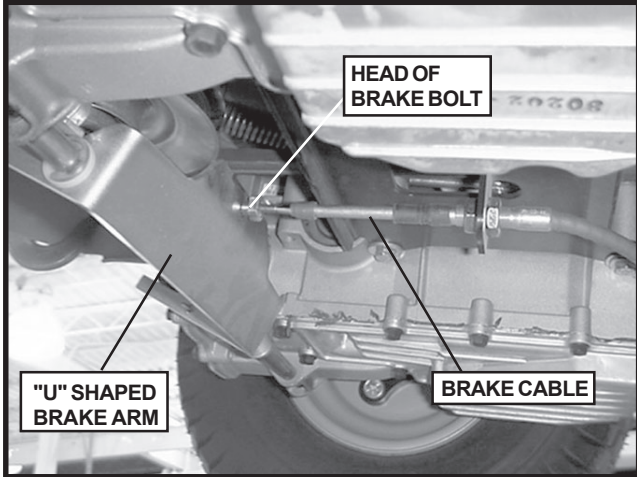

FIGURE 20
- 1/4" gap should exist between the "U" shaped brake arm and the inside of the brake bolt head. See Fig. 20.